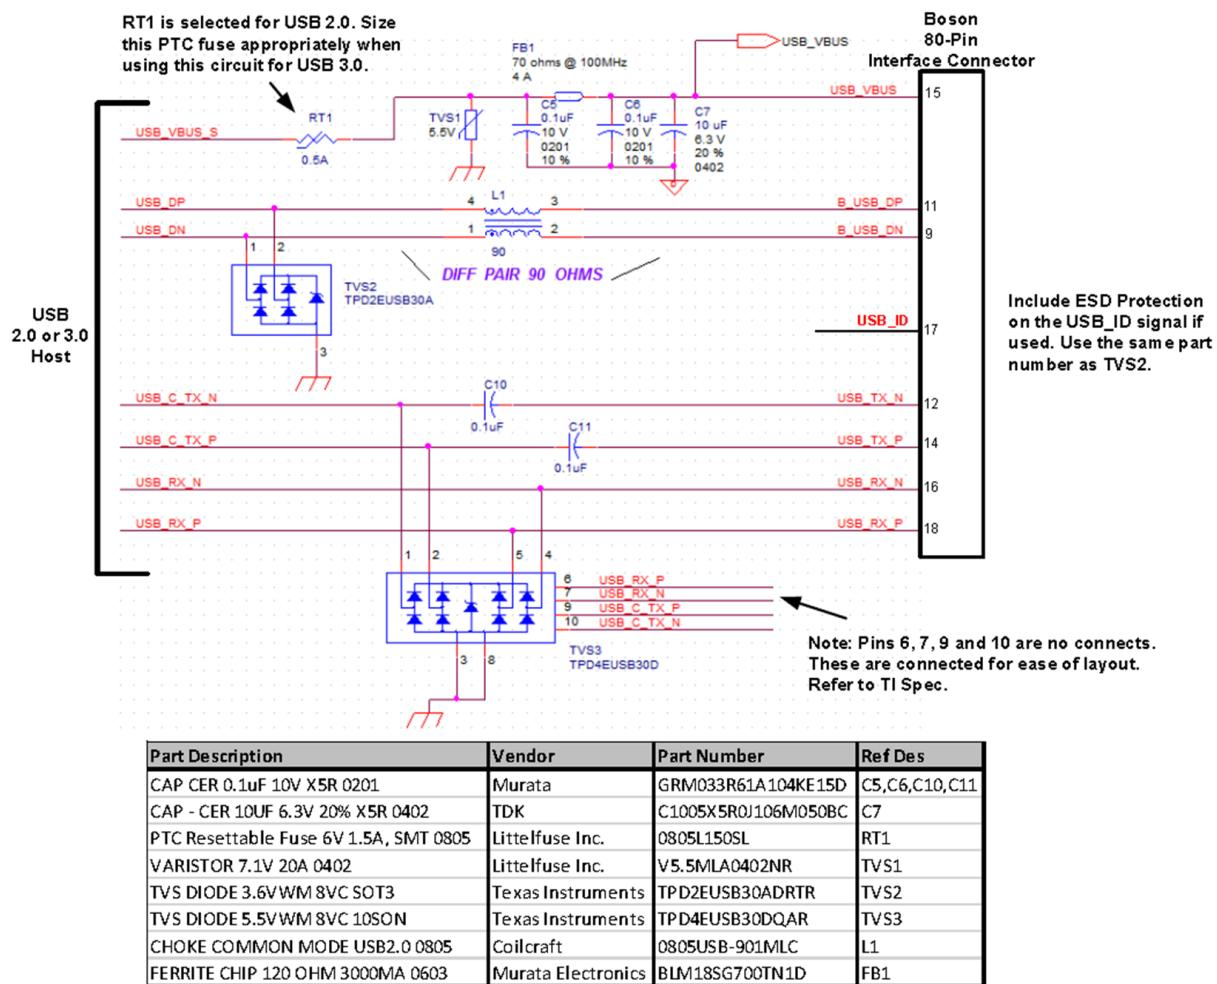

Figure 6: Recommended USB protection circuitry, to be implemented on interfacing electronics
- FLIR highly recommends implementing the protection circuit for the USB channel shown in Figure 6 on interfacing electronics.